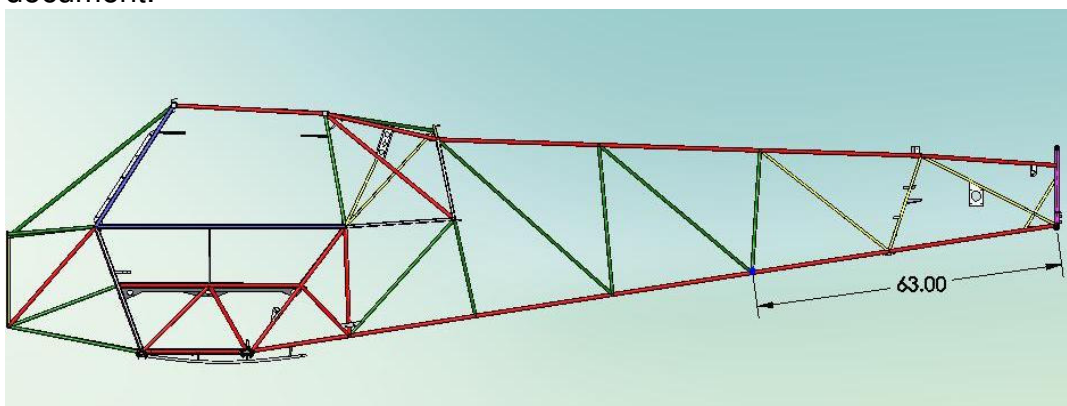

Figure 1 - Inspection Cover Location
1. Locate position 63.0" forward of rudder post on bottom side of fuselage. See Figure 1. Ensure an existing inspection cover exists. If inspection cover exists, continue to the Inspection Requirements section of this document. If no inspection cover exists, continue to the Inspection Cover Addition Procedure options A or B section of this document.